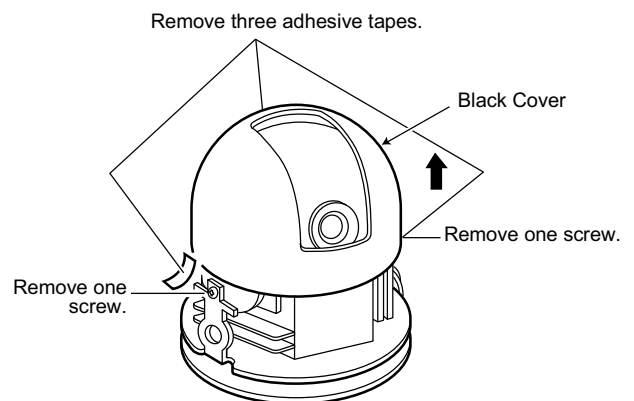

Fig. 2-4
- Referring to Fig. 2-4, remove three Adhesive Tapes and two screws that secure the Black Cover and pull up the Black Cover.